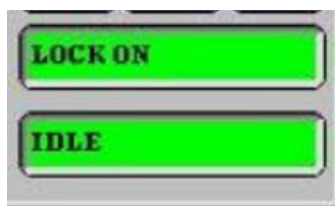

Fig. 2.5: Status of NMR Lock and Shim
- vi. Please wait for state of NMR lock and state of shim turn green (Refer Fig. 2.5)